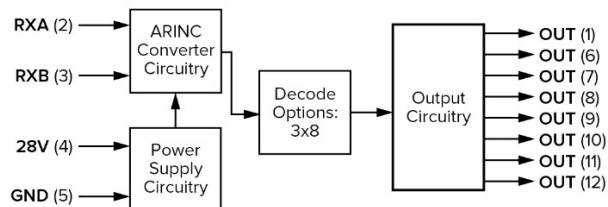

FIGURE 33. SR429/4D 3x8 Series-R.
3 X 8 Decoder: unit provides a binary decode of two ARINC 429 data bits converted into eight output signals, each corresponding to a single binary decode permutation (i.e. 000,001, ..., 111). The 3 X 8 Decoder can be configured as a Series-R (12 Pin) device as shown in Figure 33. The 3 x 8 Binary Decoder can be supplemented by replacing certain binary decoder outputs with options that include 1) a specific decode of individual ARINC 429 bits, 2) Health Monitor (H) and 3) Watchdog (W).